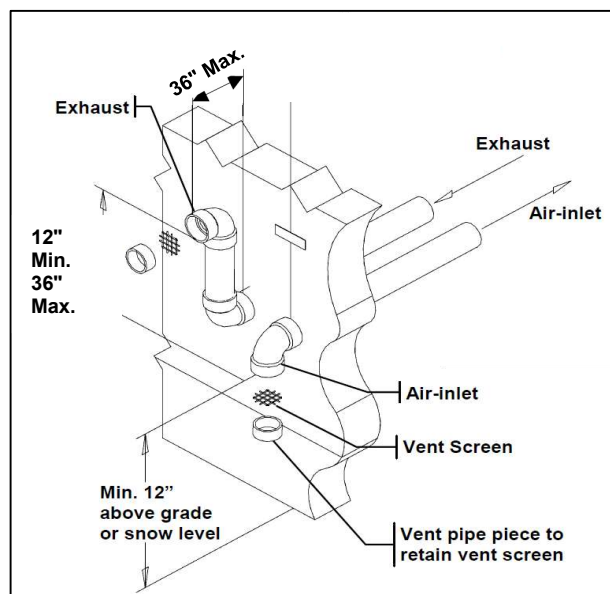
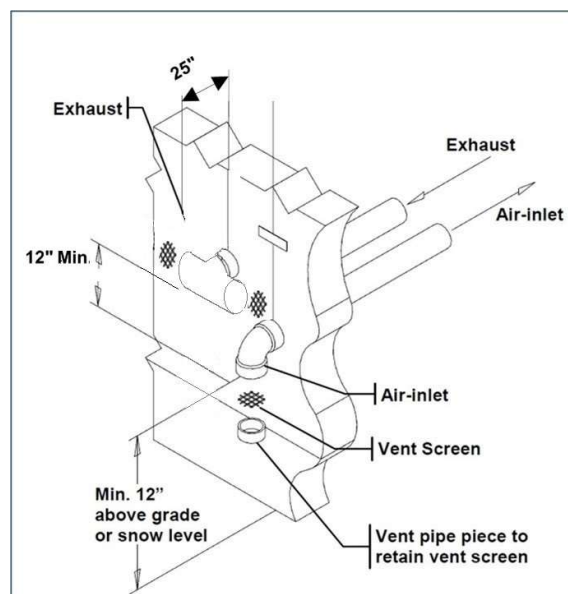

Figure 10.14
Figure 10.15
3. When using two pipe terminations the air intake piping must terminate in a 90 degree down-turned elbow as shown in Figure 10.14, 10.15 or 10.16. This arrangement avoids recirculation of flue products into the combustion air stream.
4. The exhaust piping must terminate horizontally in a section of straight pipe or an elbow pointed outward or away from the air inlet, as shown in Figure 10.14 or 10.16. A tee termination is also acceptable, as shown in Figure 10.15.
Do not extend the vent pipe outside the sidewall beyond the dimensions shown in Figures 10.14, 10.15, 10.16, 10.18, 10.19 and 10.20.